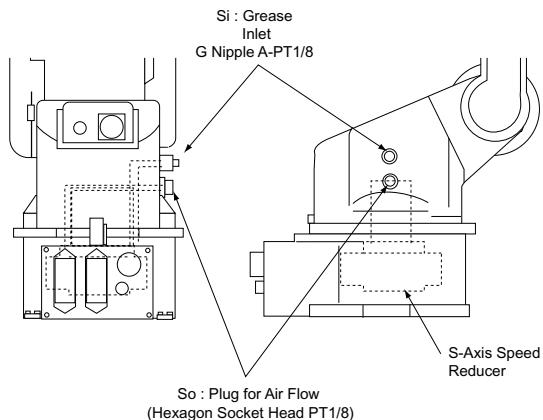

Fig. 24 S-Axis Speed Reducer Diagram
■ Grease Replenishment (Refer to " Fig. 24 S-Axis Speed Reducer Diagram ".)